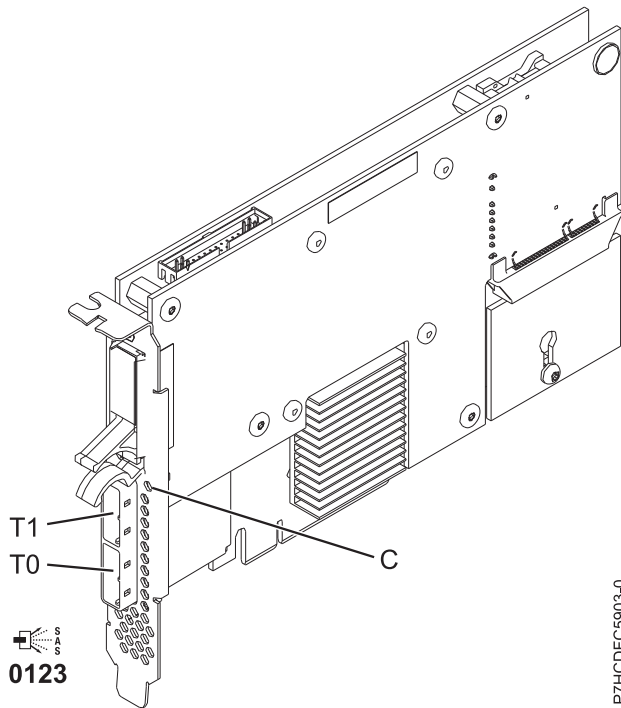

Figure 45. PCIe Dual - x4 3 Gb SAS RAID Adapter
The 5903 or 5805 contains a LED ((C) in Figure 45 on page 146) that flashes if the cache data is present. The cache-data present LED flashes when there is possible data in the cache on the adapter. If the cache data present LED is flashing, do not replace the cache battery pack. If replaced when the LED is flashing, the cache data is lost. See Figure 45 on page 146 to locate the cache-data present LED on this adapter.